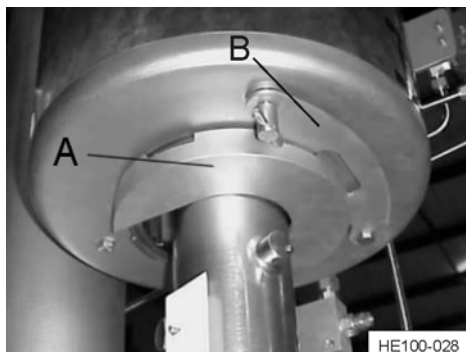

Figure 73 - Installed Shaft Clamp
4. Install shaft clamp around teeth of tube and shaft. (See Figure 73, Item A)
5. Close locking latch. (See Figure 73, Item B)